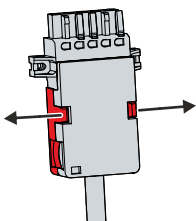

Fig. 20: Disassembly of the strain relief housing
1. Use your fingers to bend the latching lugs on the lower part slightly outwards (see Fig. 20).